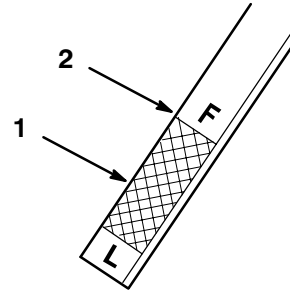

Figure 44
6. Slide the dipstick fully into the filler tube (Fig. 5). Pull the dipstick out and look at the metal end. When the transaxle is cold, oil should be in the operating range, below the FULL line on the dipstick (Fig. 44).